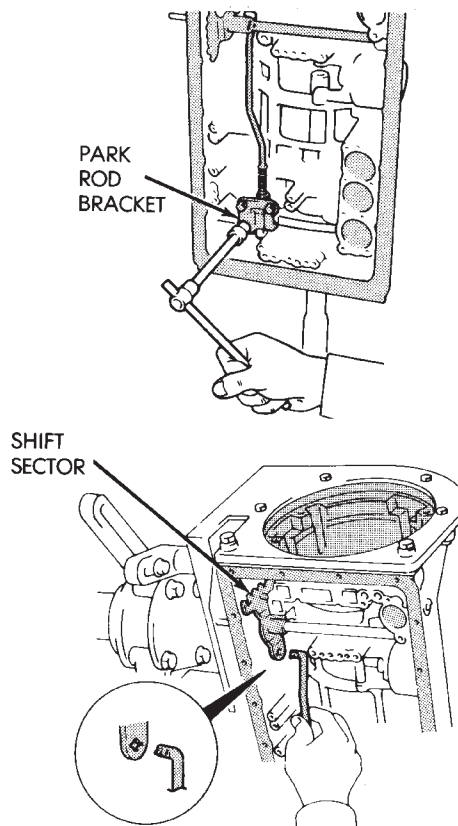

Fig. 41 Removing Park Rod And Bracket
(50) Remove bolts attaching park rod bracket to case. Then disconnect park rod from manual shaft lever and remove rod and bracket (Fig. 41).